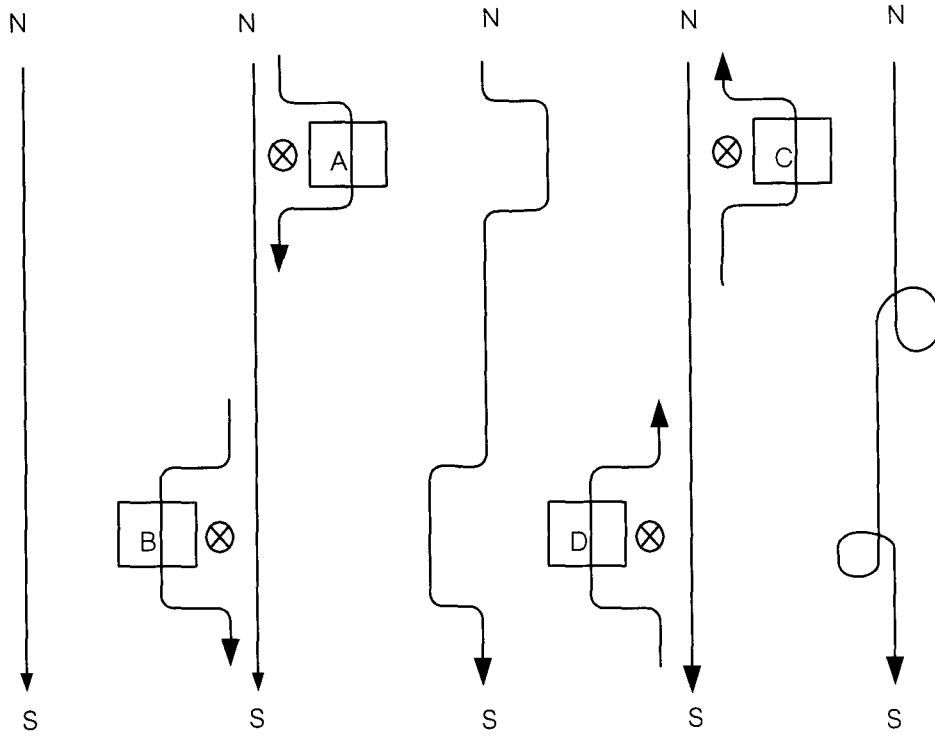

Figure 2
4. Explain the meaning of Figure 2 ( 10 points)